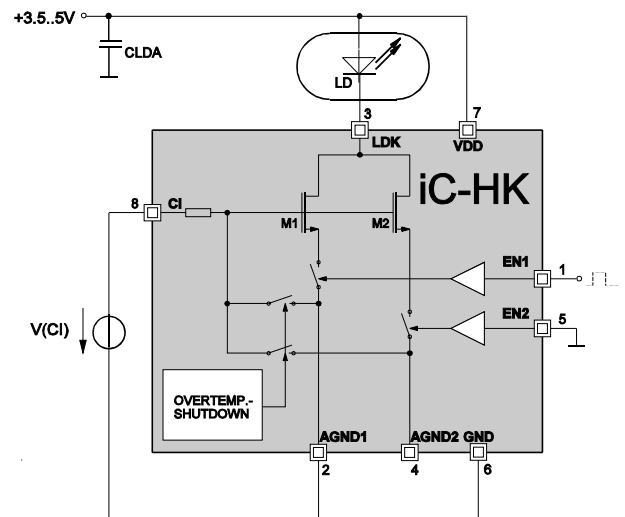
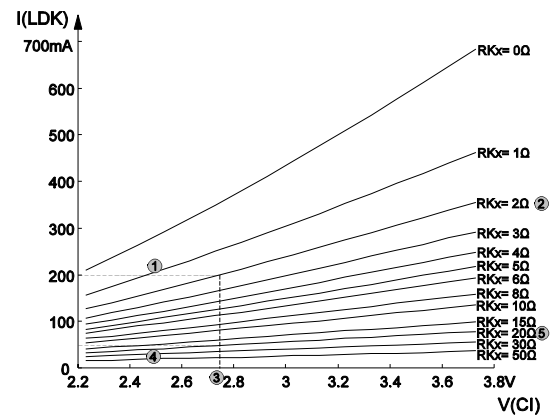

Fig. 3: Circuit with iC-HK for Example 1 - pulse current of 100mA
Fig. 4: Determining $V(CI)$ for Example 2 and 3
With the circuit shown in Figure 3 and a voltage of 1.75V at pin CI the laser current can be switched between typically 0mA and 100mA by applying an appropriate pulse pattern to EN1.
3. As shown in Figure 4 (cf. data sheet, Figure 3), an RK2 value is selected for $I(LDK) = 200\text{mA}$ and the corresponding voltage $V(CI)$ then determined - e.g. $RK2 = 2\Omega$ und $V(CI) = 2.75\text{V}$
4. Again as shown in Figure 4, the appropriate value of RK1 is determined for $I(LDK) = 50\text{mA}$ and $V(CI) = 2.75\text{V}$ as $RK1 = 20\Omega$
3. Similar to Example 2, here RK2 is chosen to 3 Ω and V(CI) to 3V for I(LDK) = 200mA
4. As shown in Figure 3 of the data sheet the corresponding value of RK1 is read off at ca. 9 Ω for I(LDK) = 100mA and V(CI) = 3V